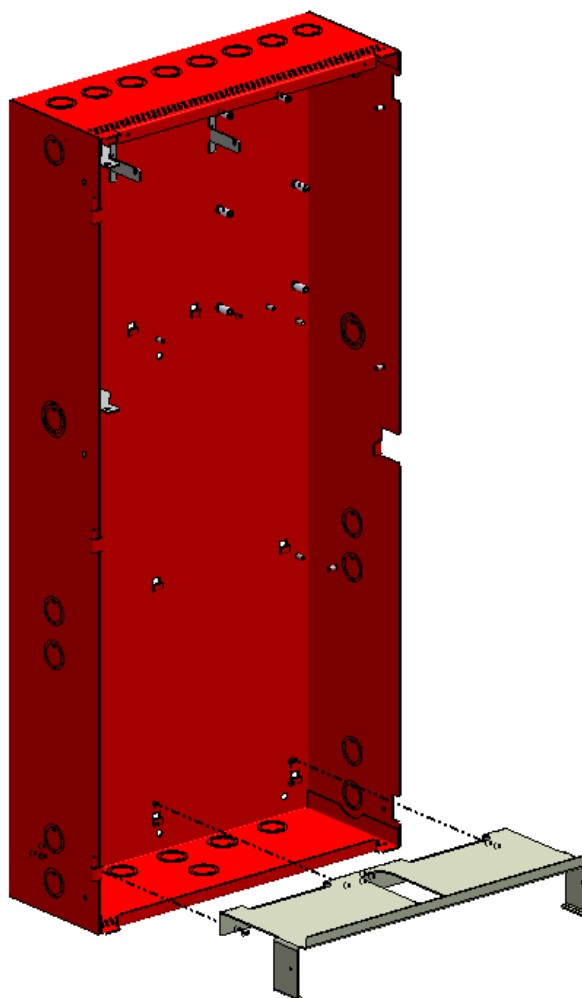

Figure 2-20. Installing the Battery Tray into Bottom Tier
3. Orient the tray such that its vertical lip is facing the front of the enclosure, as shown in Figure 2-20.